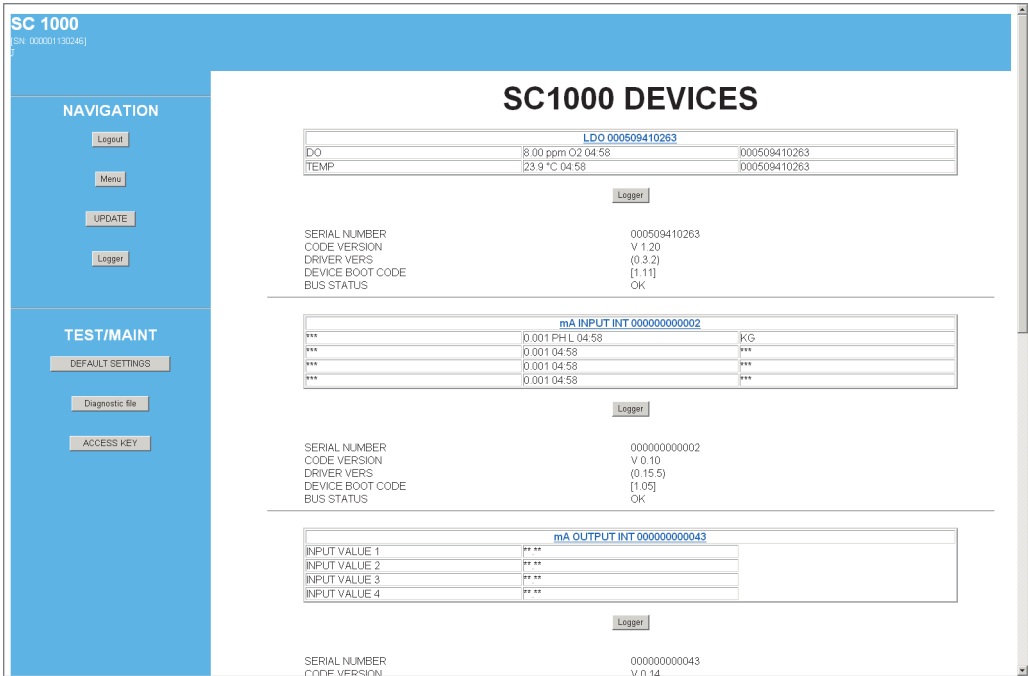

Figure 48 Browser access screen
- 6. The browser access screen is displayed (Figure 48 and Table 20).